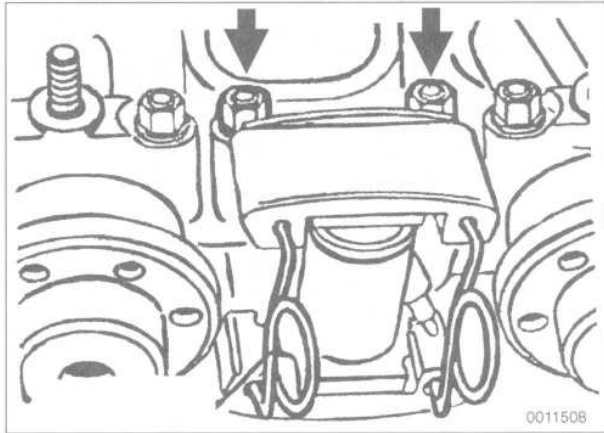

Fig. 29. Camshaft chain tensioner locked in position with BMW special tool no. 11 3 420. Tensioner mounting nuts shown at arrows.
3. Depress chain tensioner and lock in position using BMW special tool no. 11 3 420, or appropriate stiff wire. See Fig. 29.